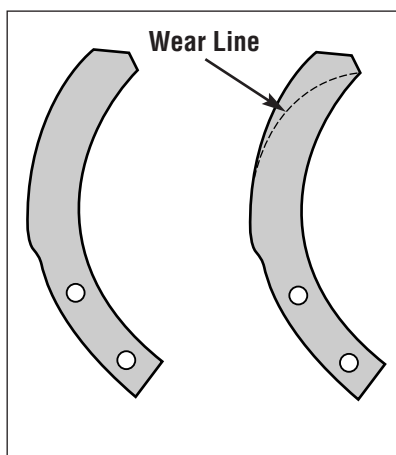

Figure 26: New and worn tines.
Inspect tines after the **first 10 to 15 hours** of tiller operation and then after **every 10 hours**. See Figure 26.
Compare your tines to those shown in Figure 26 to decide whether your tines need replacement. Your tines should be replaced when the following conditions occur:
- Tines are worn beyond the line shown in Figure 26.
- Rotate tines before they wear beyond the line shown in Figure 26.